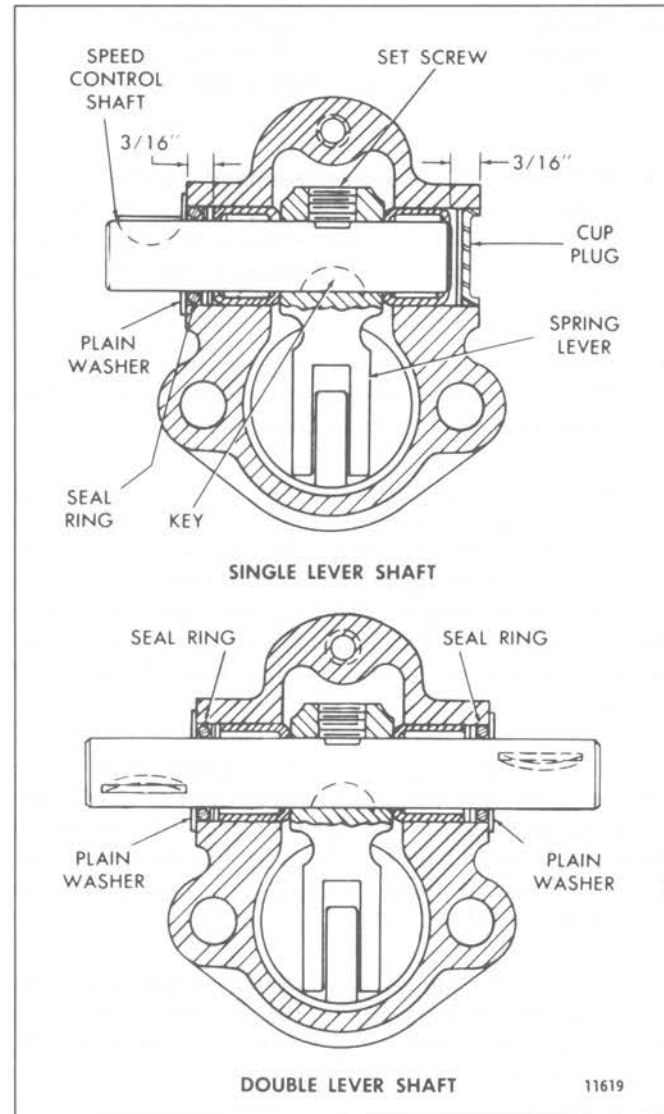

Fig. 6 – Cross Section of Governor Variable Speed Spring Housing
- c. Remove the pipe plug in the top of the variable speed spring housing. Then remove the variable speed spring lever set screw from the speed control shaft and spring lever (Fig. 6).